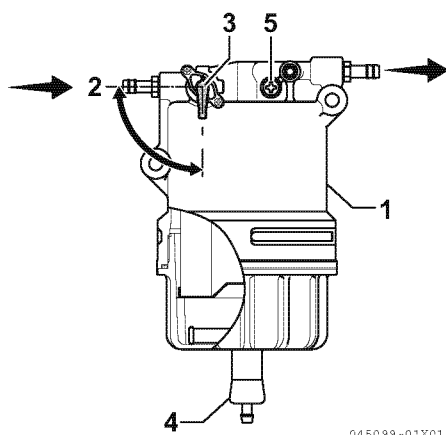

Figure 5
1. Position an approved container under the water separator (1, **Figure 5**) to collect the contaminants.
2. Close the fuel valve (3, **Figure 5**) by turning it to (2, **Figure 5**) position.
3. Open the drain valve (4, **Figure 5**) at the bottom of the water separator. Drain any water collected inside. If no water comes out, loosen the air vent screw (5, **Figure 5**) at the top of the water separator by turning it counterclockwise 2 - 3 turns.
4. If still no water comes out, open the fuel valve (3, **Figure 5**).